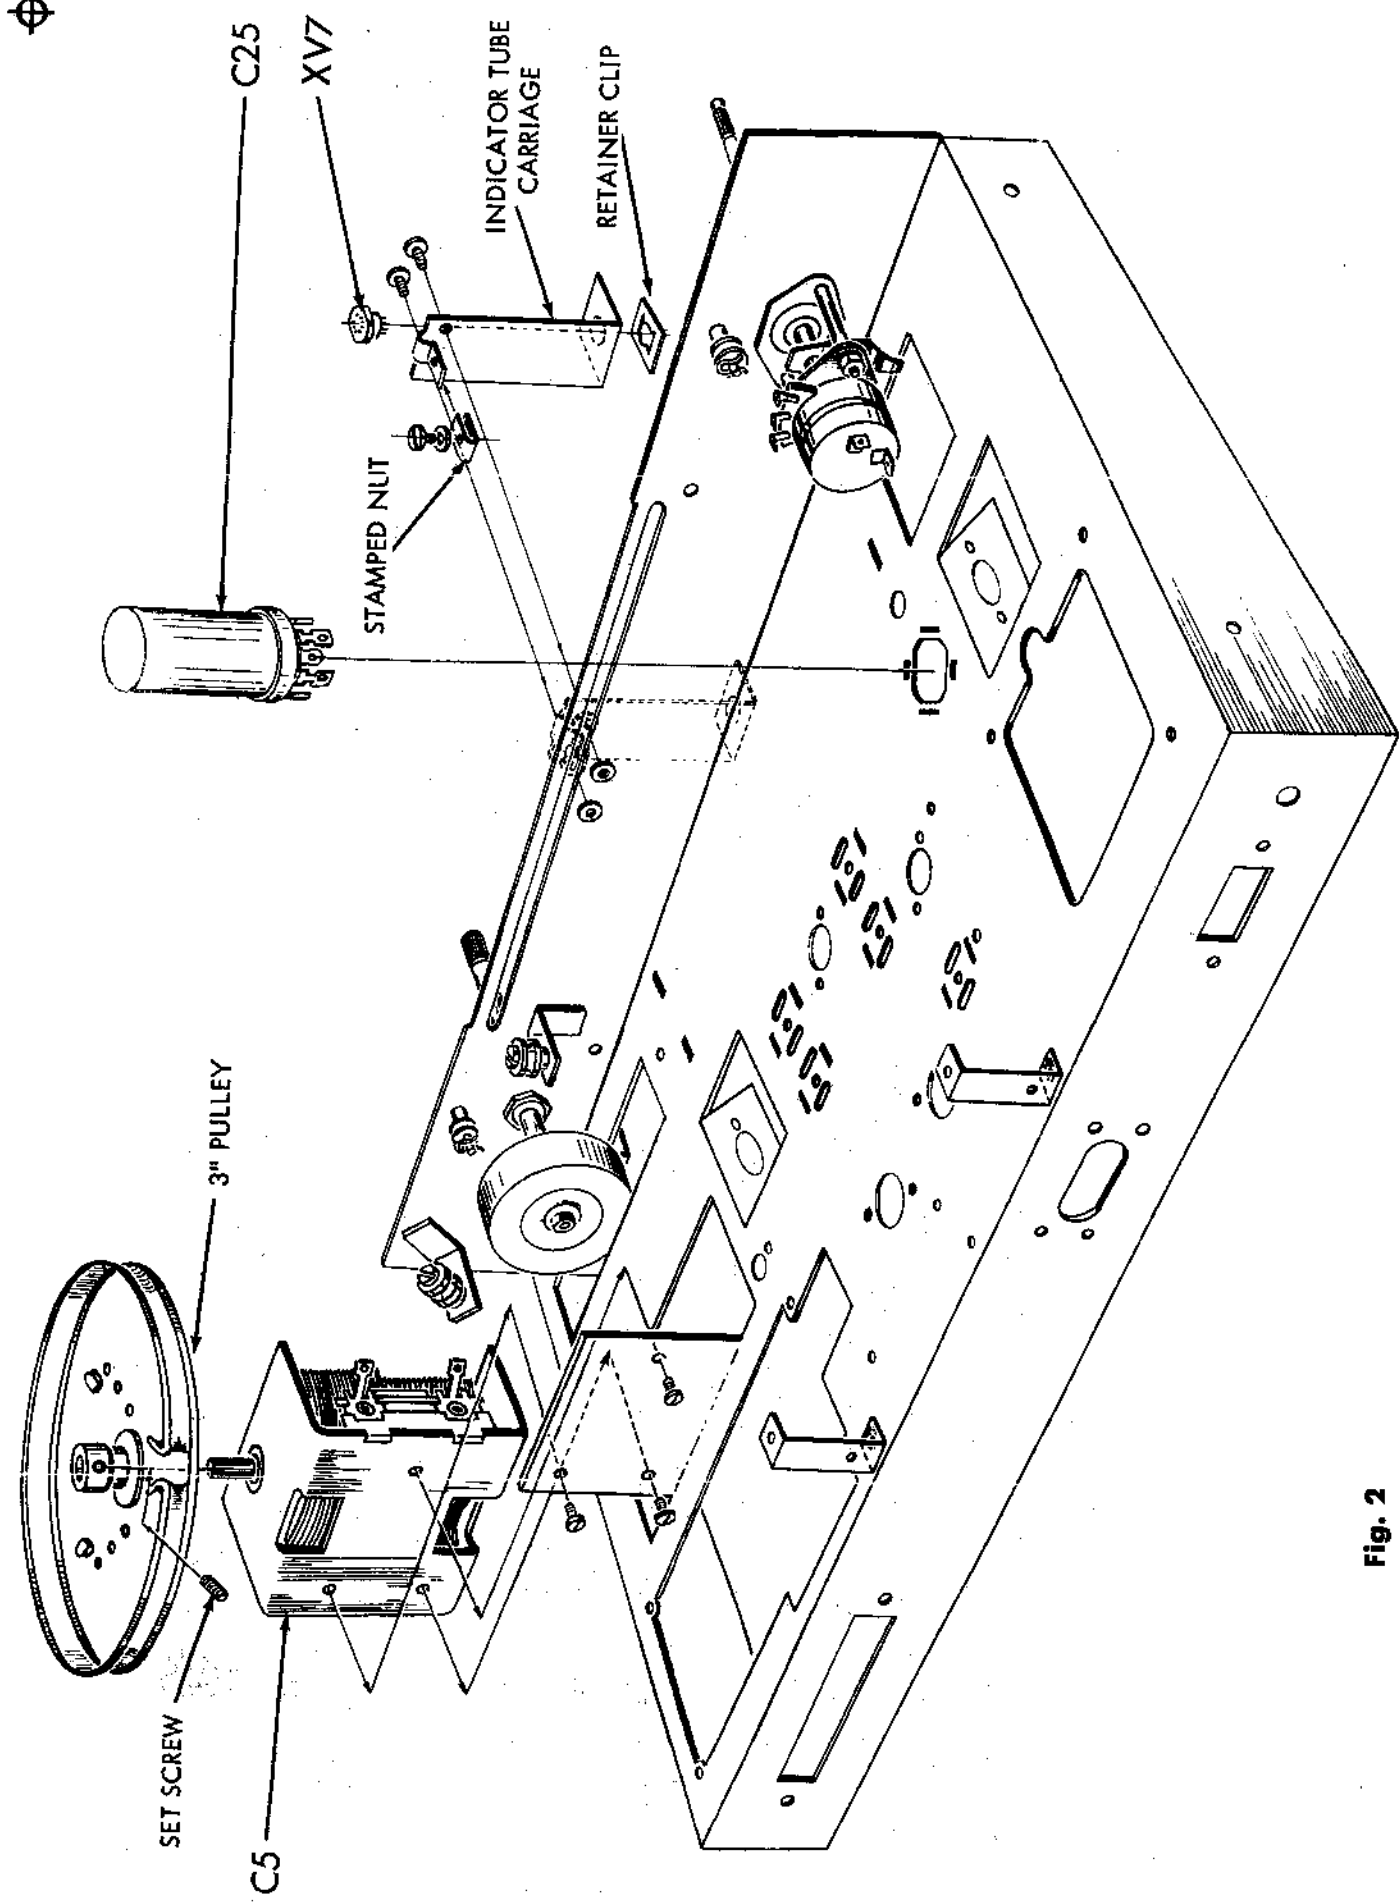
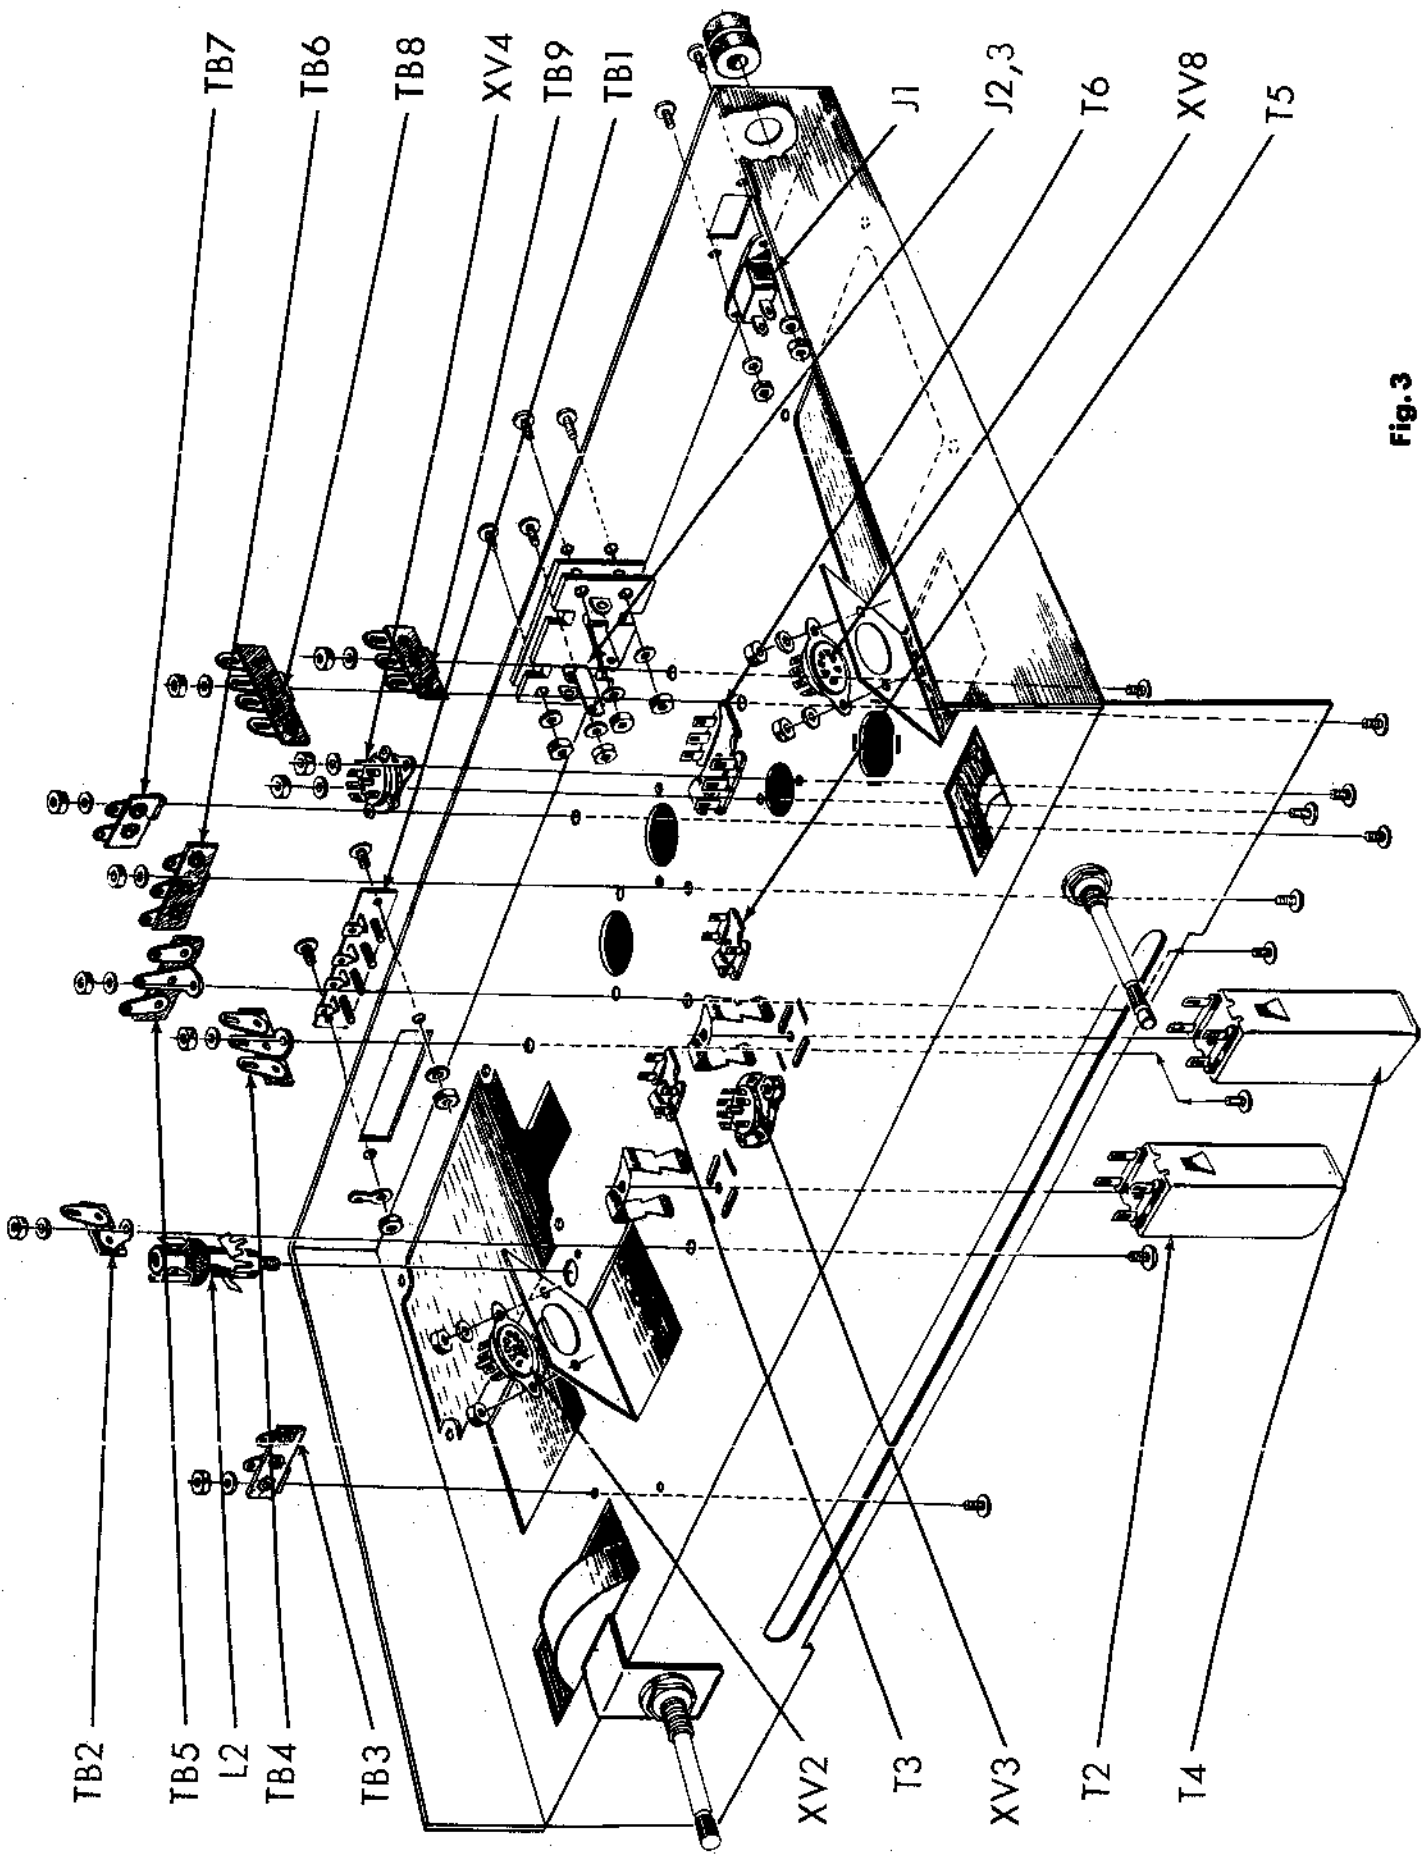
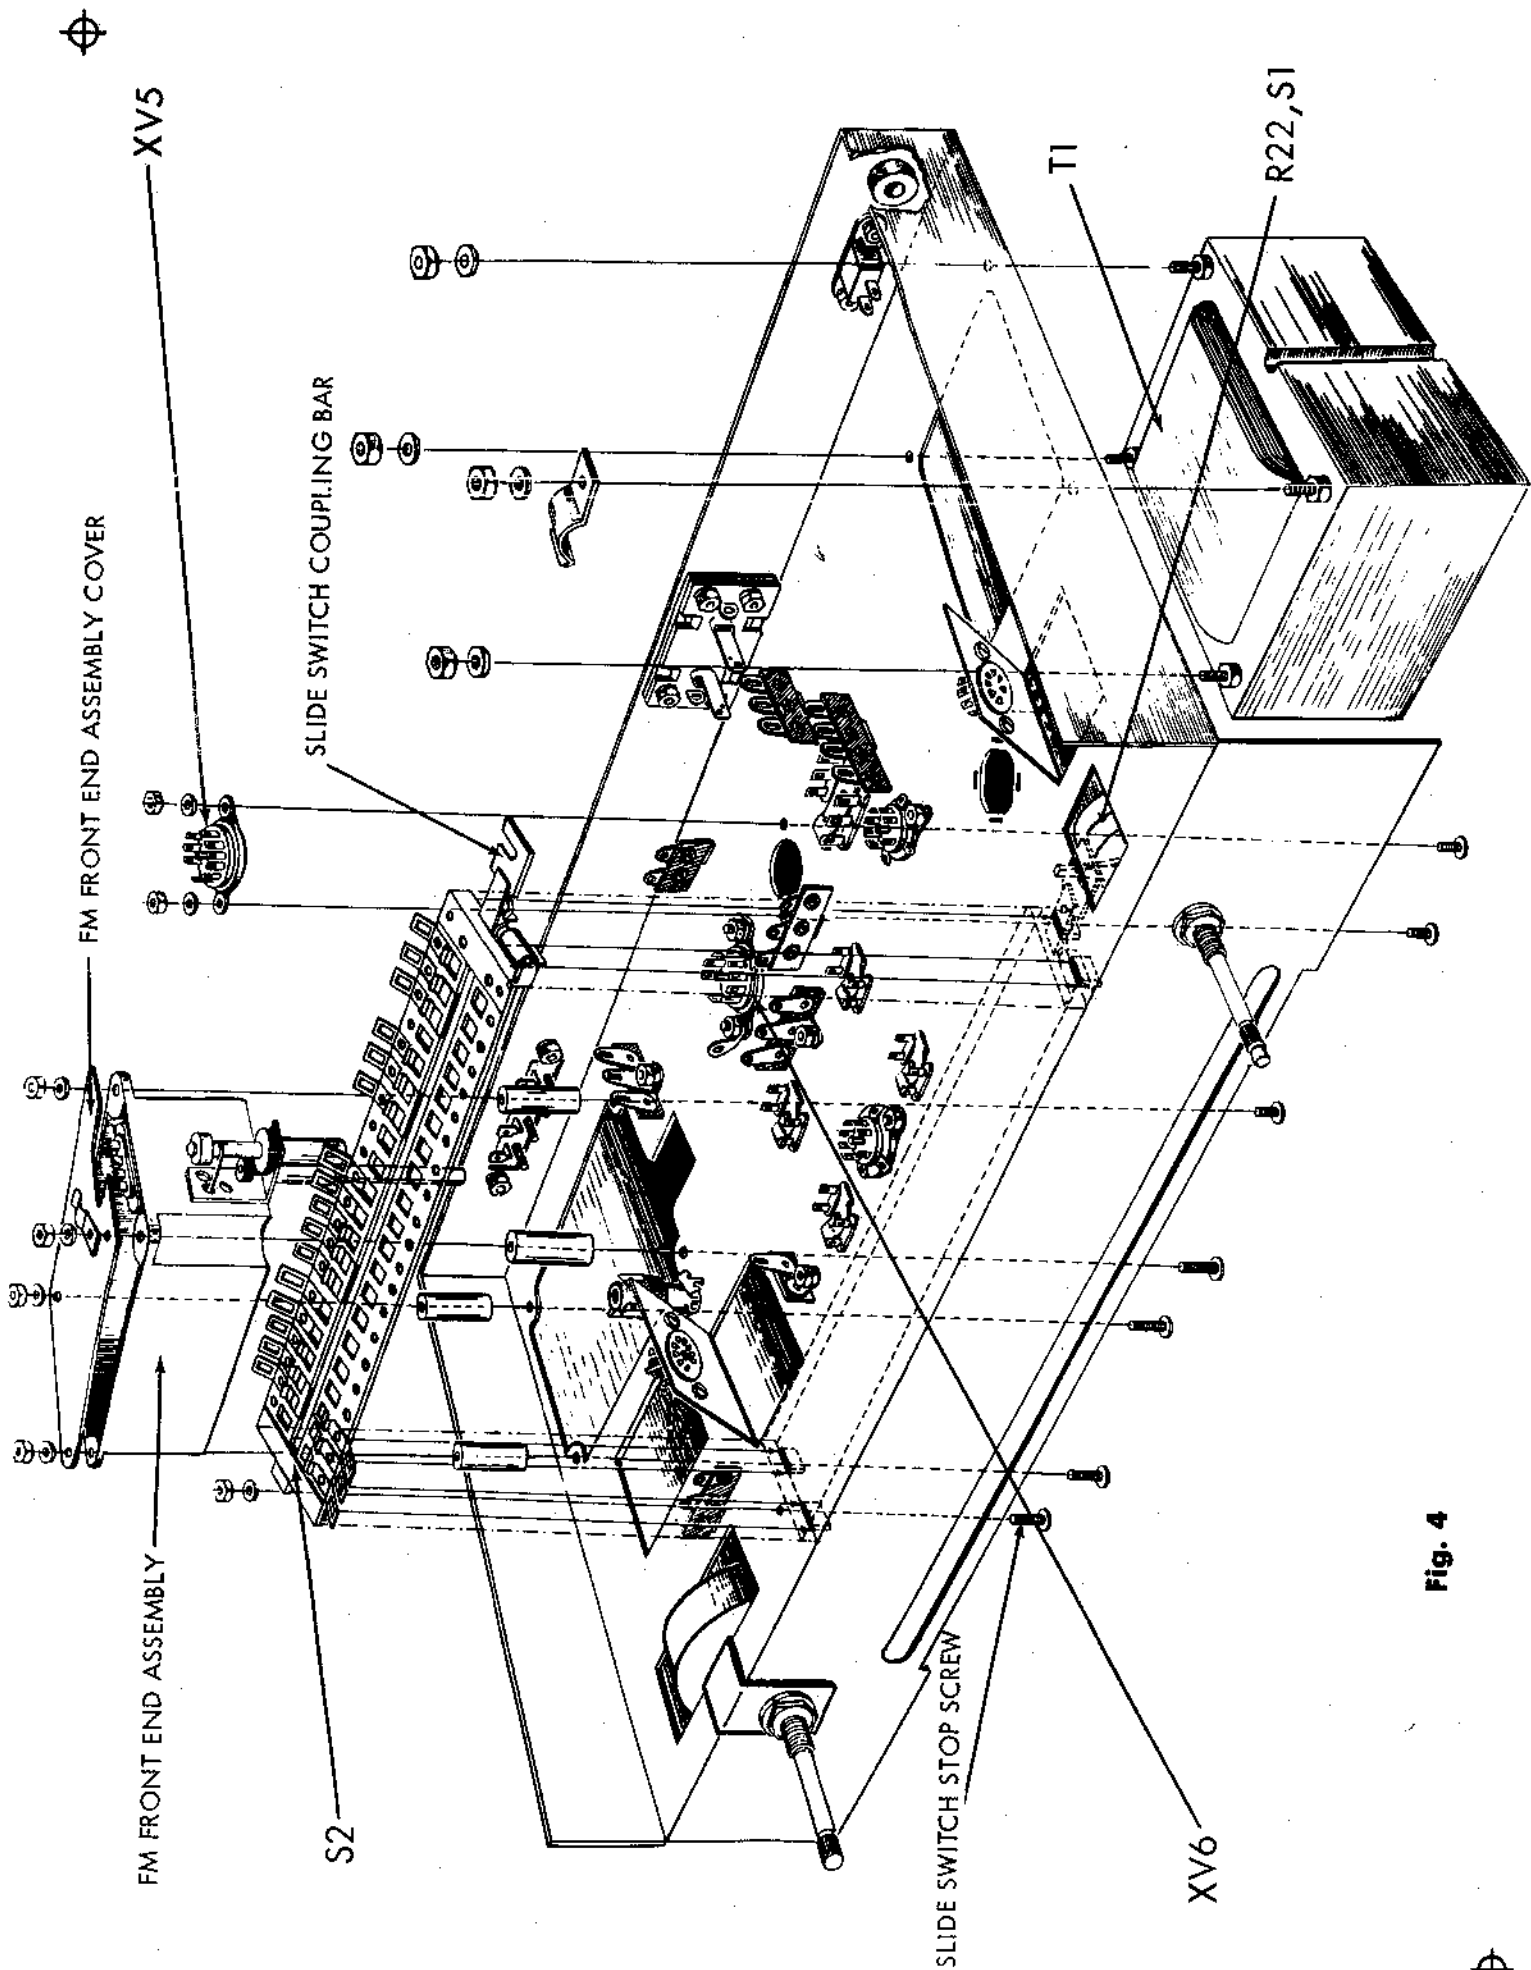
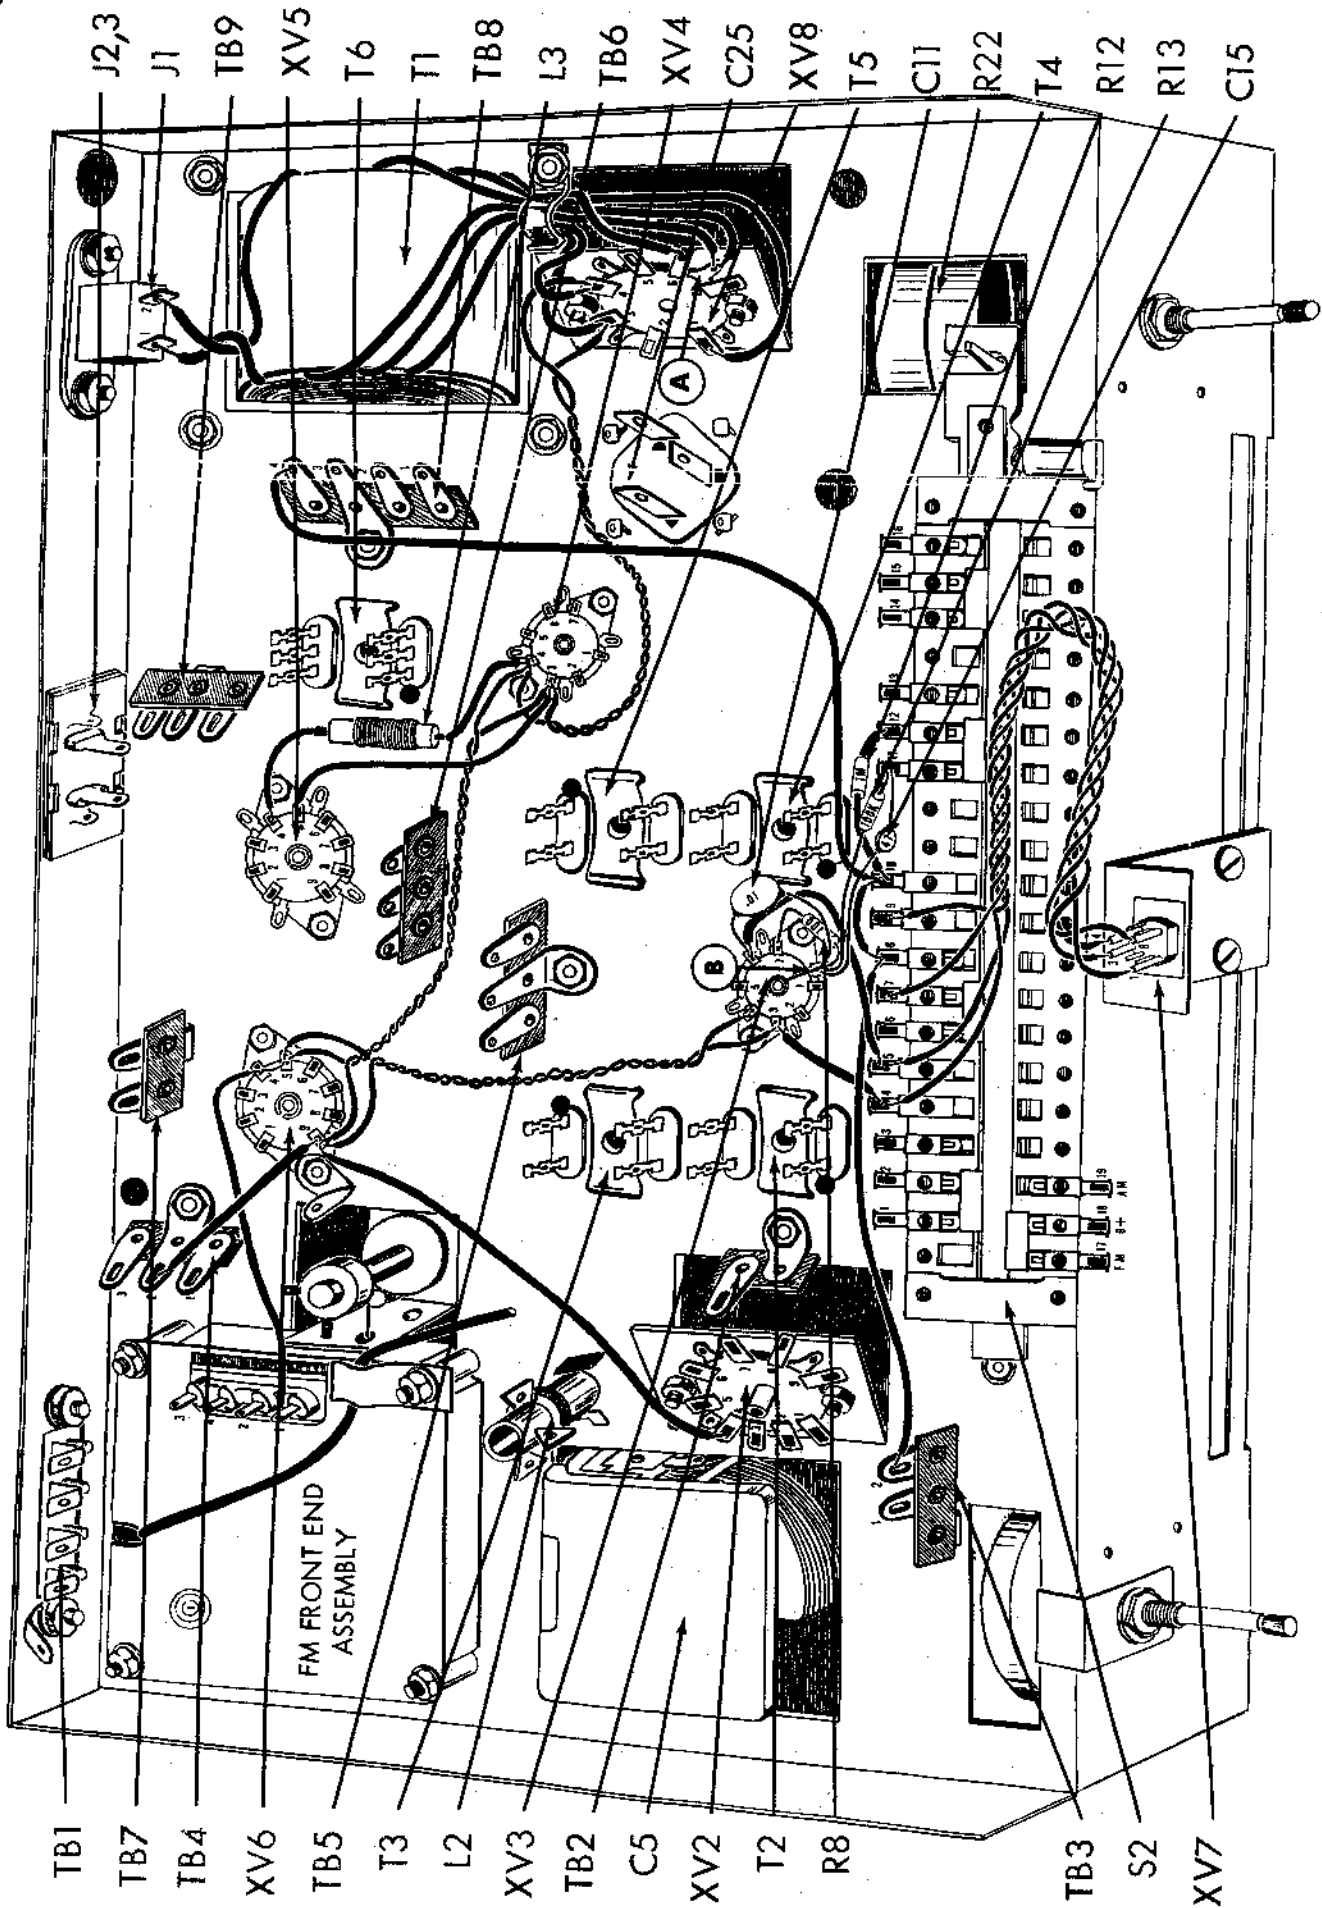

Fig. 2
Fig. 3
Fig. 4
Fig. 5
- (4) 1. Fig. 2. Snap the small stamped nut in position on the indicator tube carriage. Screw a #4-40 screw and a #4 flat washer into the nut. Do not tighten screw.
- (4) 2. Fig. 2. Pass the leads pre-wired to socket XV7 through the "D" shaped hole in the indicator tube bracket. Note that the flat on the socket automatically positions the socket. Pass the leads through the retainer clip and firmly press it over the socket to secure the socket to the tube carriage.
- (4) 3. Fig. 2. Mount the indicator tube carriage to the chassis as follows: Lay the carriage in place against the chassis front, as shown. Insert the shoulder of one of the special round brass tapped eyelets into the chassis slot from the rear and line it up behind one of the holes in the carriage. Insert a brass screw through one of the holes in the carriage into the threaded hole in the round brass tapped eyelet and then tighten the screw. Do the same with the second round brass tapped eyelet and brass screw using the second hole in the carriage. The carriage should slide freely along the full length of the slot when you are finished.
- (4) 4. Fig. 2. Mount the 40-20-20 mfd electrolytic can capacitor, C25, as shown. Note the orientation (direction of half moon, square and triangle) in figure 5. Twist all four tabs about 1/4 turn. Do not twist too much or the tabs will shear off. Solder the tab without the hole to the chassis to assure a good ground contact.
- (4) 5. Fig. 2. Turn the shaft on the variable capacitor C5, so that the plates are fully in mesh - closed (maximum capacity). This will prevent damage to the rotor plates. Mount the capacitor to the chassis bracket bent at a right angle with the rest of the chassis. The capacitor is to be mounted with the trimmer screws facing and closest to the edge of the chassis. Secure the capacitor to the bracket using three #6-32 x 1/8 screws.
- (4) 6. Fig. 2. Mount the set screw into the hole in the bushing of the 3" pulley. Rotate this screw three times in the hole so that it will not come loose.
- (4) 7. Fig. 2. Slide the 3" pulley over the capacitor shaft. Rotate the pulley and note if it is parallel to the frame of the capacitor. It is parallel if the pulley does not wobble when rotated. If it is not parallel, bend the pulley slightly. Push the pulley towards the frame. There should be about 1/32" clearance between the pulley bushing and the frame. Turn the pulley clockwise on the shaft until the opening in the side of the pulley is towards the side of the chassis, away from the center. Tighten the set screw when the pulley is in this direction, and the tuning capacitor is fully closed.
- (1) 1. Fig. 3. Mount the convenience outlet J1, in the rear apron of the chassis. Use two #6-32 x 1/4 screws, two #6 lockwashers and two #6-32 hex nuts.
- (2) 2. Fig. 3. In the hole next to the convenience outlet, mount a 3/8" rubber grommet.
- (3) 3. Fig. 3. Mount dual jack J2, 3, as shown. Use four #4-40 x 3/8 screws, four #4 lockwashers and four #4-40 hex nuts. Use a bakelite insulator between the chassis and the jack.
- (4) 4. Fig. 3. On four screw antenna terminal board TB1, bend up all lugs as shown in the drawing. From the outside of the chassis, mount the board using two #6-32 x 1/4 screws and two #6-32 hex nuts. Under one hex nut, mount a #6 ground lug and under the second hex nut mount a #6 lockwasher. Check that the lugs are bent parallel to the rear apron of the chassis and are about 3/16" away from the rear apron so that they will not short against the chassis or the component to be mounted near the lugs.
- (5) 5. Fig. 3. Mount the seven pin miniature socket, without the center shield lug, XV8, as shown. Use two #4-40 screws, two #4 lockwashers and two #4-40 hex nuts. Note orientation in figure 5.
- (6) 6. Fig. 3. Mount the seven pin miniature sockets, with the center shield lugs, XV3 and XV4, as shown. Use two #4-40 screws, two #4 lockwashers and two #4-40 hex nuts on each. Note orientation in figure 5.
- (7) 7. Fig. 3. Mount the tan nine pin miniature socket, XV2, as shown. Use two #4-40 screws, two #4 lockwashers and two #4-40 hex nuts. Note orientation in figure 5.
- (8) 8. Fig. 3. Mount the one post right terminal strip TB2, the two post left terminal strip TB3, the four-two post with ground terminal strip TB4, TB5, TB6 and TB9, the one post right with ground terminal strip TB7, and the three post two right with ground terminal strip TB8, as shown. Use one #6-32 screw, one #6 lockwasher and one #6-32 hex nut on each. See Fig. 5 for the orientation of the terminal strips.
- (9) 9. Fig. 3. Mount the rectangular cans, T2, T3, T4, T5 and T6, as shown. Use the special brass clip provided to hold each can. Each can may be identified by the stock number stamped on the can. The stock number for T2 is 34613, for T3 is 34603, for T4 is 34614, for T5 is 34605 and for T6 is 34602. T2 through T5 are IF cans and T6 is the ratio detector can. Orient each can so that the color dot, identifying one of the terminals, is as shown in figure 5. Push the plastic at the bottom of the can (in which the solder lugs are mounted) through the longer two of the four elongated slots (which surround the round hole). When this is done, the can stands on the top of the chassis. From the bottom of the chassis, insert the brass spring clip through the two remaining elongated slots, by spreading the clip apart slightly. Next, push one side of the clip up far enough so that it will catch in the "Y" shaped hole at the side of the can. Hold the can firmly against the top of the chassis with one hand. With the index finger of the other hand, working from the bottom of the chassis, push the clip up until it clicks into the remaining "Y" shaped hole in the other side of the can. Repeat this for each of the five cans.
- (10) 10. Fig. 3. Insert the oscillator coil, L2, into the hole near the variable capacitor and FM Front End Assembly, from the bottom of the chassis. Note the orientation in figure 5. The small locating pin on the mounting clip should fit into the small hole adjacent to the mounting hole. Push down toward the chassis until two soft clicks are heard and the coil form is held firmly to the chassis by the spring action of the two legs.
(4) 1. Fig. 4. Mount the two nine-pin miniature tube sockets, XV5 and XV6, as shown. Use two #4-40 screws and two #4-40 hex nuts. On XV5, use two #4 lockwashers under the hex nuts. On XV6, use one #4 lockwasher under one hex nut and one #4 ground lug under the second hex nut. Note orientation in figure 5.
(4) 2. Fig. 4. On power transformer T1, cut both green leads, one red lead and the white leads to 4". Cut the red-white and the second red lead to 5". Cut both black leads to 2". Strip 1/4" of insulation off from the ends of each of these leads. Mount the power transformer as shown, with the red leads close to the side of the chassis, away from the center. Use four #8 lockwashers and four #8-32 hex nuts. Under one of the lockwashers, mount a cable clamp. The two green leads, the two red leads, the red white lead and the white lead are to be run under this cable clamp.
(4) 3. Fig. 4. Mount the FM Front End Assembly as shown. Use four #6-32 x 1 1/8" screws, four 1 1/16" aluminum spacers, four #6 lockwashers and four #6-32 hex nuts. The screws are passed through the four holes through the top of the chassis. The spacers are placed over these screws from the bottom of the chassis. The FM Front End Assembly is placed over these spacers with the FM Front End Assembly cover over this. Each screw and the FM Front End Assembly is secured to the chassis with the four lockwash-
ers and four hex nuts. Note that the shielded lead from the FM Front End Assembly must pass through the notch in the FM Front End Assembly cover. Under one of the lockwashers, mount a cable clamp. Pass the shielded lead under the cable clamp as shown in figure 5.
(4) 4. Fig. 4. Mount the 6-32 x 3/8" slide switch stop screw as shown from above the chassis. Use a #6 lockwasher and a #6-32 hex nut to secure the screw to the chassis.
(4) 5. Fig. 4. Mount the large slide switch, S2, as shown. Slip the slide switch coupling bar over the actuating lever protruding from the rectangular hole under the potentiometer-switch combination, R22, S1. It may be necessary to move the slide switch lever when doing this. Insert the four tabs on the slide switch through the four small slits near the front of the chassis. Twist all four tabs about 1/4 turn. Do not twist too much or the tabs will shear off.
- (✓) 1. Fig. 5. From power transformer T1, twist the two black leads as shown. Connect one lead to J1-1 (C) and the second lead to J1-2 (C).
- (✓) 2. Fig. 5. From power transformer T1, connect the red-yellow and white leads to ground lug "A" (S2) at XV8; connect one red lead to XV8-1 (S1) and the second red lead to XV8-6 (S1); connect one green lead to XV8-3 (C) and the second green lead to XV8-4 (C).
- (✓) 3. Fig. 5. Connect one end of a 5" piece of yellow wire to XV8-4 (S2) and one end of a 5" piece of brown wire to XV8-3 (S2). Twist both leads together. Run the leads along the chassis, as shown. Connect the other end of the yellow lead to XV4-4 (C) and the other end of the brown lead to XV4-3 (C).
- (✓) 4. Fig. 5. Connect one end of a 5" piece of yellow wire to XV4-4 (C) and one end of a 5" piece of brown wire to XV4-3 (C). Twist the two leads together. Run the leads along the chassis, as shown. Connect the other end of the yellow wire to XV6-5 (C) and the other end of the brown wire to XV6-9 (C).
- (✓) 5. Fig. 5. Connect a 2 1/2" piece of brown wire from XV4-3 (S3) to XV5-5 (S1).
- (✓) 6. Fig. 5. Cut both leads on RF choke, L3, to 7/8". Cover each lead with a 5/8" piece of spaghetti. Connect from XV4-4 (C) to XV5-4 (S1). Dress the choke close to the chassis.
- (✓) 7. Fig. 5. Connect a 3/4" piece of bare wire from XV6-4 (C) to XV6-5 (C).